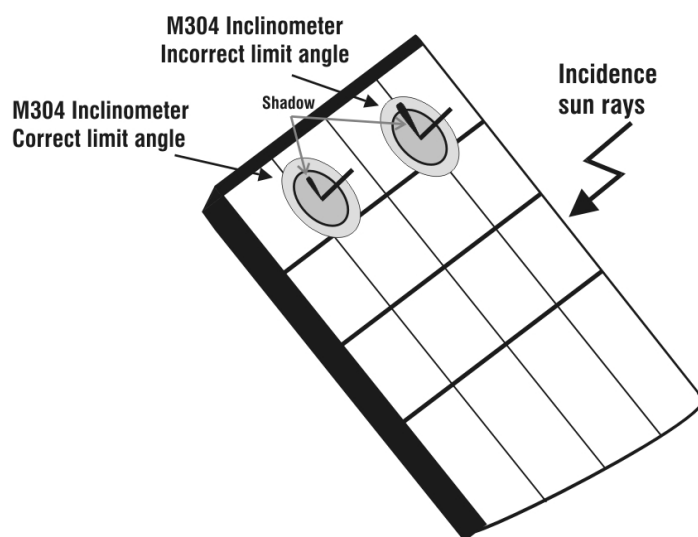

Fig. 6: Positioning the M304 inclinometer
11. Mount the M304 (inclinometer) supplied accessory, place and hold it on the plane of module. **Verify that the sun shadow falls on the disc within the “limit internal circle” on the disc itself (Fig. 6).** If this is not the case, the incidence angle between sun rays and the module surface is too high and not complying with the test conditions declared by the module manufacturer. As a consequence the measurements performed by the meter are not ok and all measurements steps shall be repeated at another daytime.